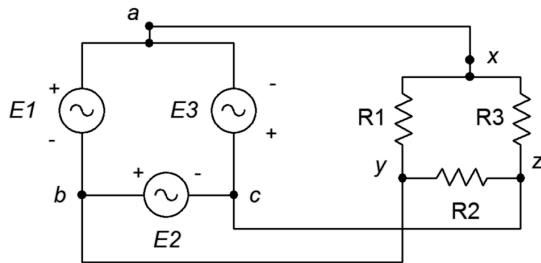

Figure 9.1
- As depicted in Figure 9.1, a 3-phase Δ connected generator feeds a Δ connected load. The generator phase voltage is 120 volts and the load consists of 3 legs of $10\ \Omega$ each. Find the voltage across each load leg, the line current through the wires connecting the load to the generator and the power drawn by the load.
- Referring to the delta-delta system of Figure 9.1, if the generator phase voltage is 230 volts and the load is balanced with each leg at $2\ \Omega$, determine the line voltage, line current, generator phase current and load current.